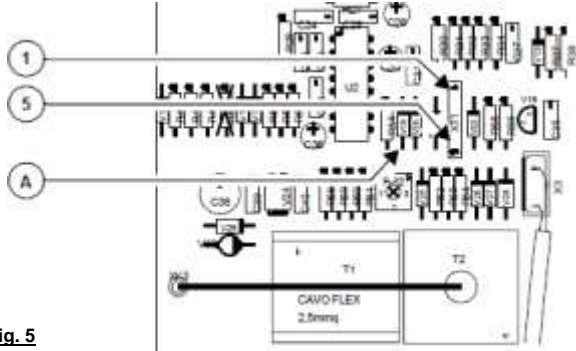

Fig. 5
1. Connect a power supply on the points XT1-1 and XT1-5(GND) on the anode and supply with approx. 15Vdc, short-circuit points A and XT1-5 (Fig.5), set the oscilloscope on a time scale of 5 uS and a range of 0.5V/DIV with probe x10 and verify: